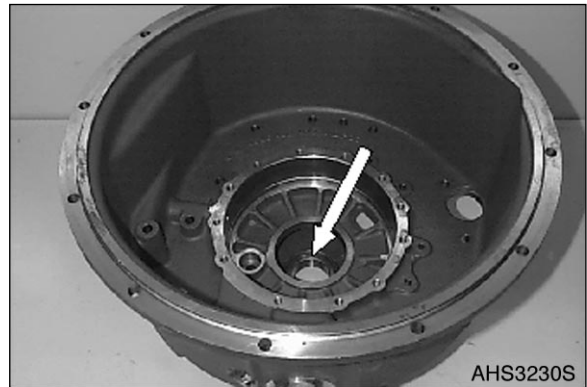

Figure 375
1. Insert outer bearing race into the housing bore until contact is obtained and install inner bearing race, see Figure 375.